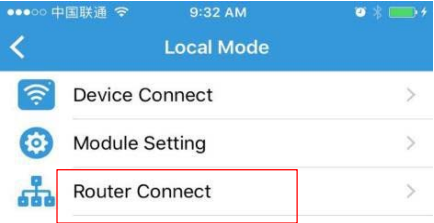
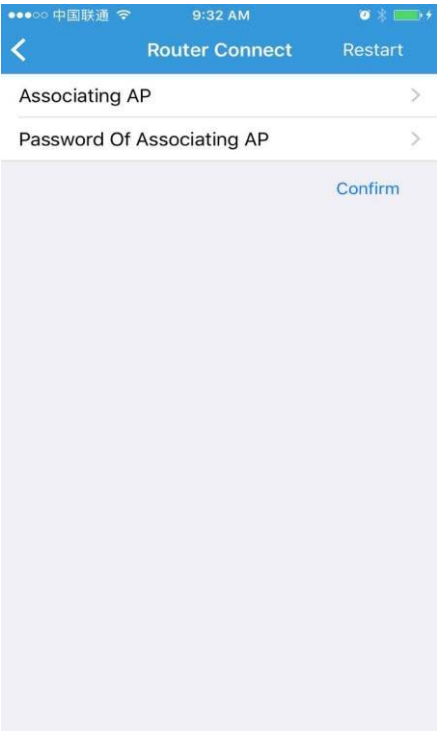

Figure 15
Figure 16
2. Open Solar Assistant APP, select Local Mode, and then select Router Connect, as shown in Figure 15. Enter Router Connect setting interface, as shown in Figure 16.